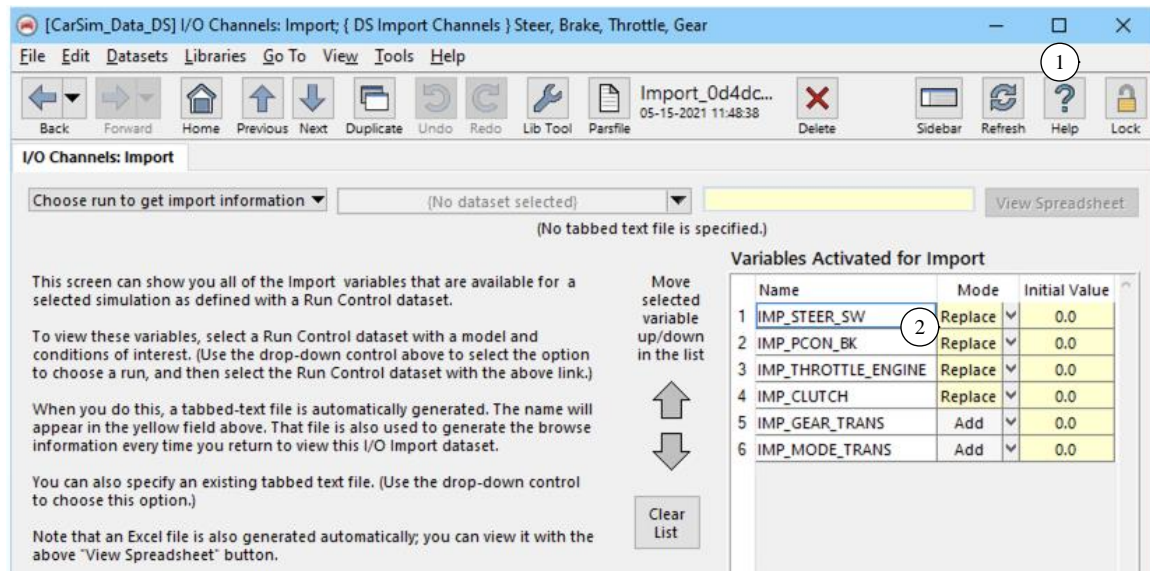

Figure 15. I/O Channels: Import screen, with specification for six import variables.
The **I/O Channels: Import** screen allows the end-user to define the Import Array, a list of variables that represent data to be brought into the VS Solver every time-step and evaluated as part of the overall CarSim and TruckSim simulations. In the case of Windows DS, the import variables (Figure 15, ②) represent the controls from the Logitech hardware. The type of import mode supported by the Import Variable of interest — most variables support Add, Replace, or Multiply, while others only support Add — determines how the corresponding control is setup within the VS Browser (typically on the **Procedure** screen).